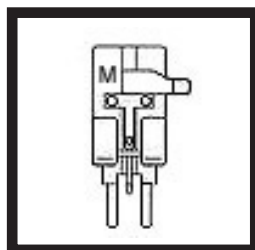

Fig. 1
15. Stitch 5 buttons to each leg, 3 on each denim side and 2 on each cuff. To sew the buttons by machine, attach the button fitting foot M (Figure 1), select stitch 05, and lower the feed dog on the machine.